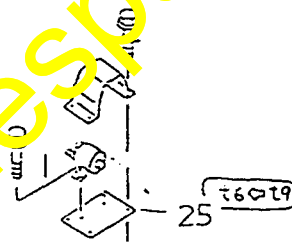

Fig. 44
- ⑫ Change of thickness of heater relay mounting plate on WA800-2 (Fig. 44)